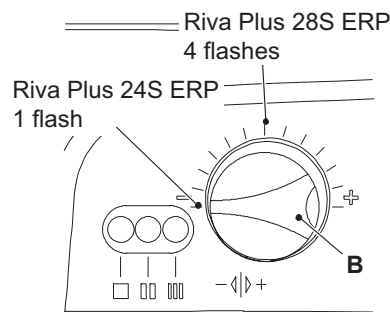

Figure 8.8
At this step it is possible to visualize the current setting by keeping the reset button D pressed for more than 5 seconds. The lamps F will flash a number of times corresponding to the setting Figure 8.8 (once for Riva Plus HE 24S ERP, four times for Riva Plus HE 28S ERP).
- 9 To change the setting turn the knob B on a position corresponding to the boiler models (Figure 8.8). By turning the knob B, the lock-out signal lamp E blinks quickly (2 per seconds) indicating that the setting has changed and must be memorised.